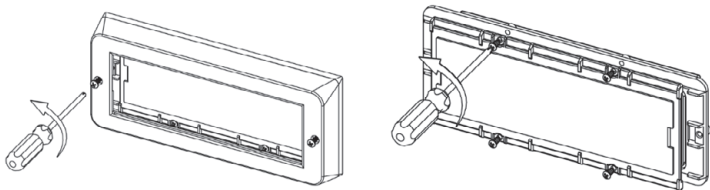

Fig. 1
- Remove the outer frame and the LED gear tray from the luminaire housing (see Fig. 1)